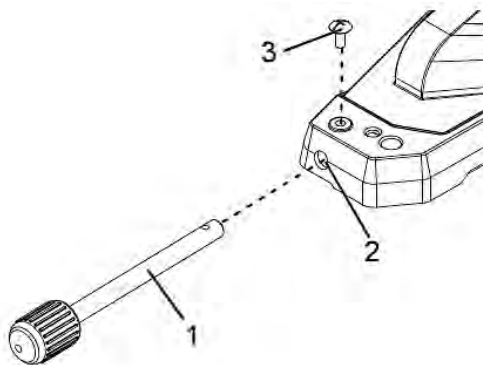

Fig. 10: Locking handle for the tilt angle
7.4 Attaching the rear support rod (Fig. 10)